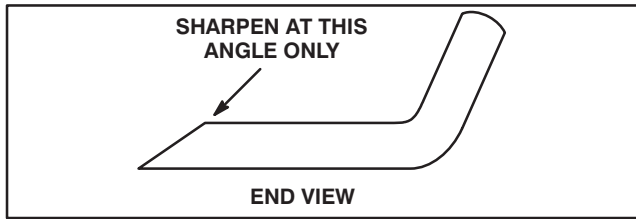

Figure 32
2. Inspect cutting edges of all blades. Sharpen the cutting edges if they are dull or nicked. Sharpen only the top of the cutting edge and maintain the original cutting angle to make sure of sharpness (Fig. 32). The blade will remain balanced if same amount of metal is removed from both cutting edges.